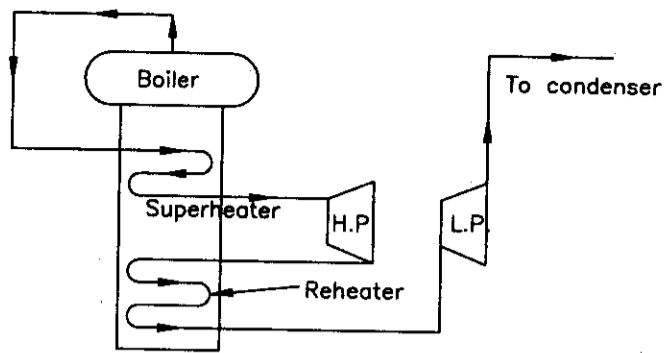

Fig. 22.6. (a) Steam reheating with flue gases.
- (1) **Gas Reheating.** The gas reheating system is shown in Fig. 22.6 (a).